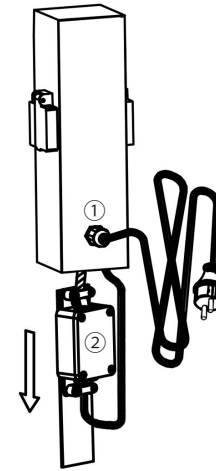

fig. 1
**fig. 1:** Loosen the cable gland ① and pull out the connection box ②. Unscrew the 4 screws of the junction box ②, open the box and remove the cable with the plug. When connected to a distribution box, only the plug can be removed.